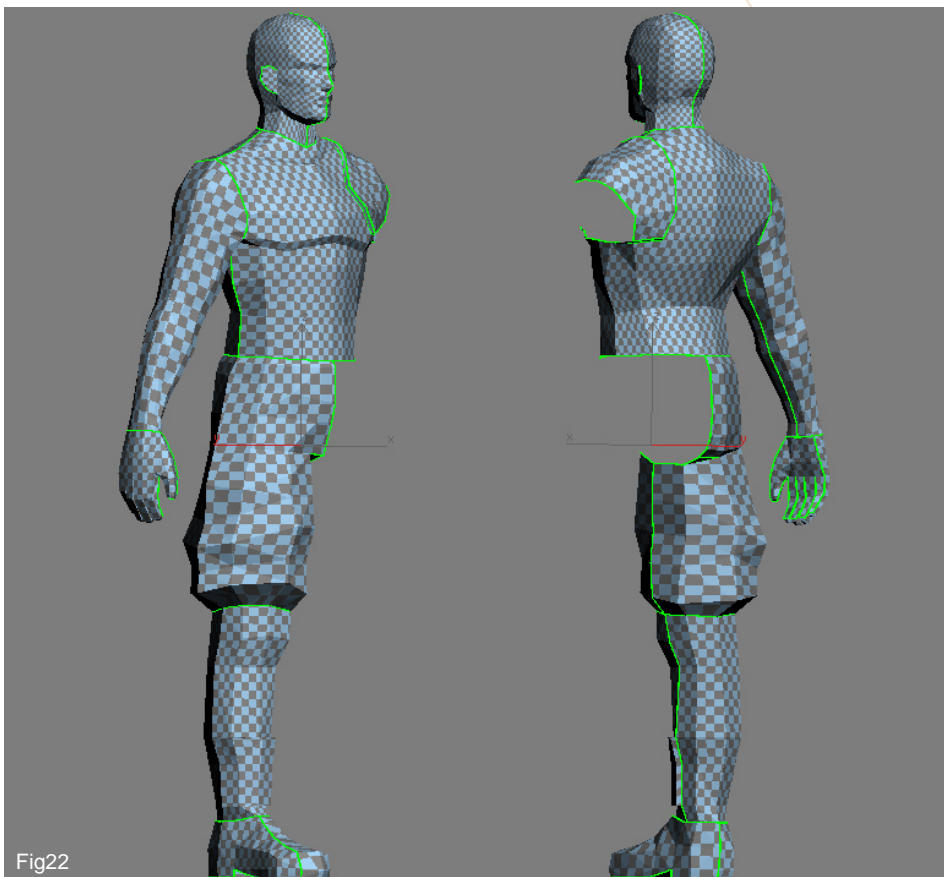

Fig22
22. In Fig 22 you can see that the seam lines on the limbs are on the inside as this is usually the least visible area. This means that if there are any problems with edges not matching exactly on the final texture they will be less noticeable here. On the torso you can see one seam line on one side under the left arm and there is one above the top and one below the trousers. This is a good area to have them ensuring a sharp edge to where the texture changes on the character, similarly with the shoulder armour on the right arm. The seam line down the front of the trousers and face will eventually disappear when the mesh is complete.